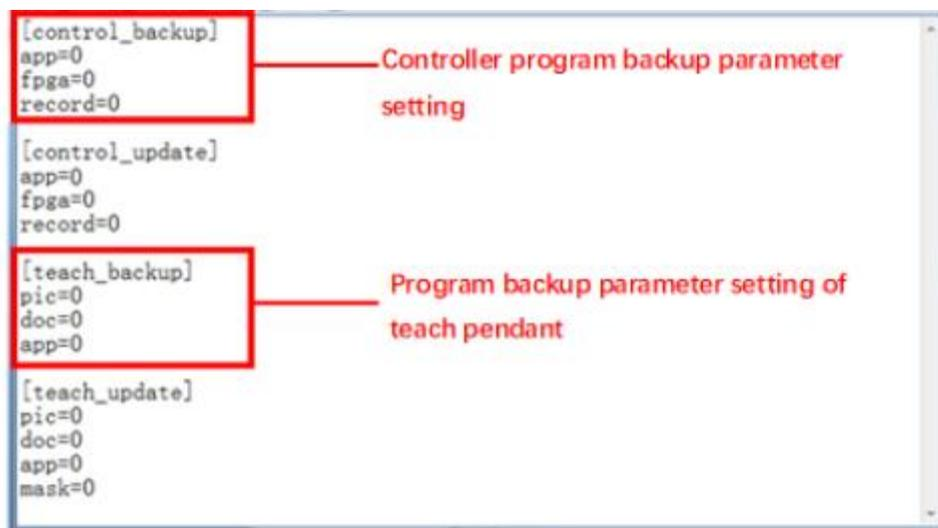

Figure 9.2 Related contents of "config.ini" configuration file backup
- 3) Open "config.ini" with notepad and edit the text content as shown in Figure 9.2. The text